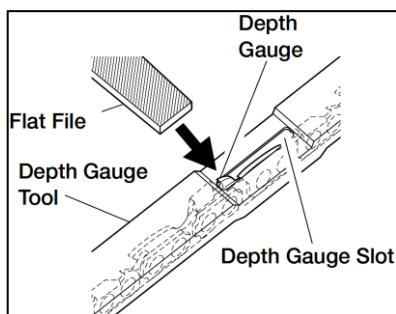

Figure 13
1. Place depth gauge tool (.025") firmly across top of two cutters. Make sure depth gauge enters slot in depth gauge tool (see Figure 13).